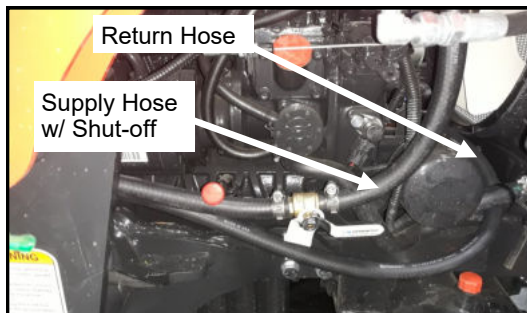

Fig. 14.5A (Return Hose Routing)
- 14.5 Ref. figures 14.5A and B. Route the hose along the engine bay, away from any moving parts, sharp edges, or sources of heat. Run along the bottom of the radiator keeping clear of the fan and fan belts. Cut to length and connect to the return line tee. Use the remaining hose to connect to the other heater port and the nipple installed on the thermostat housing. This is the supply line.